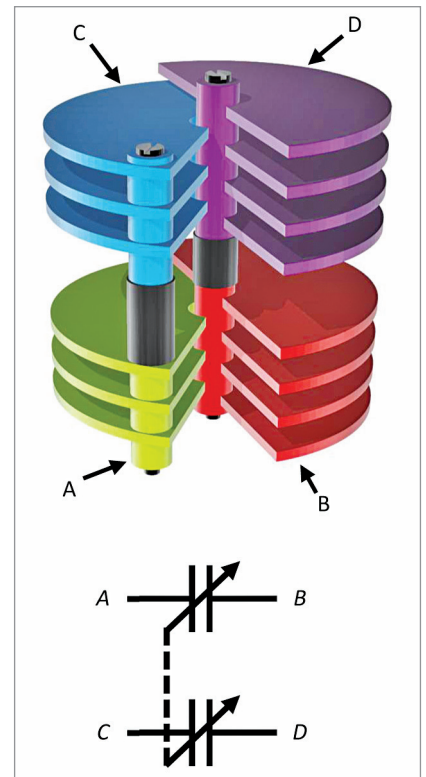

Fig. 6: Two separate variable capacitors mechanically connected together to vary together
desired frequency in relative of the frequency produced by the LO. Therefore, many systems have twin gang variable tuning capacitors, which consist of two separate variable capacitors whose value can be varied together (not independently) mechanically (see Fig. 6). Thus, one capacitor is used in RF tank circuit on the RF front-end, and another is used to control the frequency of the local oscillator (LO). When changed, capacitance of both the capacitors is changed simultaneously.